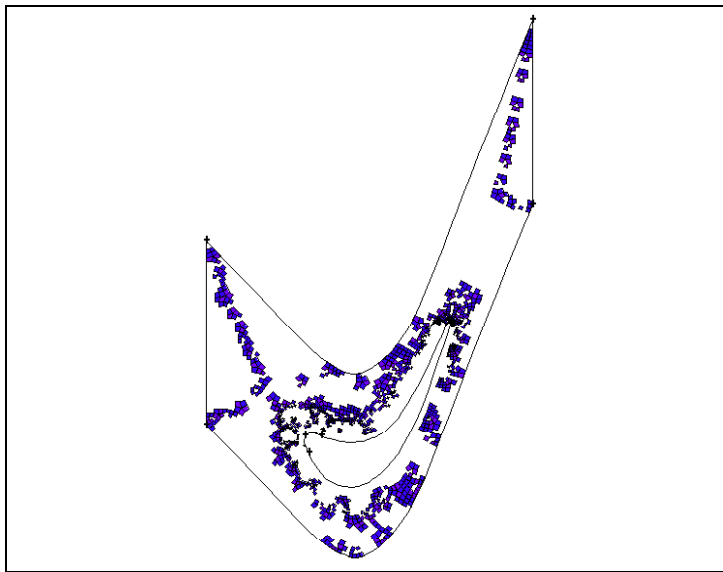

Figure 8-14: Quadrilateral mesh elements—EquiAngle Skew = 0.1–0.3
*Figure 8-14 displays face mesh elements for which the EquiAngle Skew parameter is between 0.1 and 0.3 for this example. (NOTE: To view the 2-D face elements shown in Figure 8-14, select the **Display Type: 2D Element** option on the **Examine***